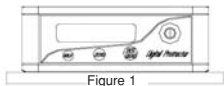

Figure 1
1. Turn on the digital level and put it on a smooth and level surface as shown in figure 1. Wait 10 second until the display digits are stable and record the degree value.